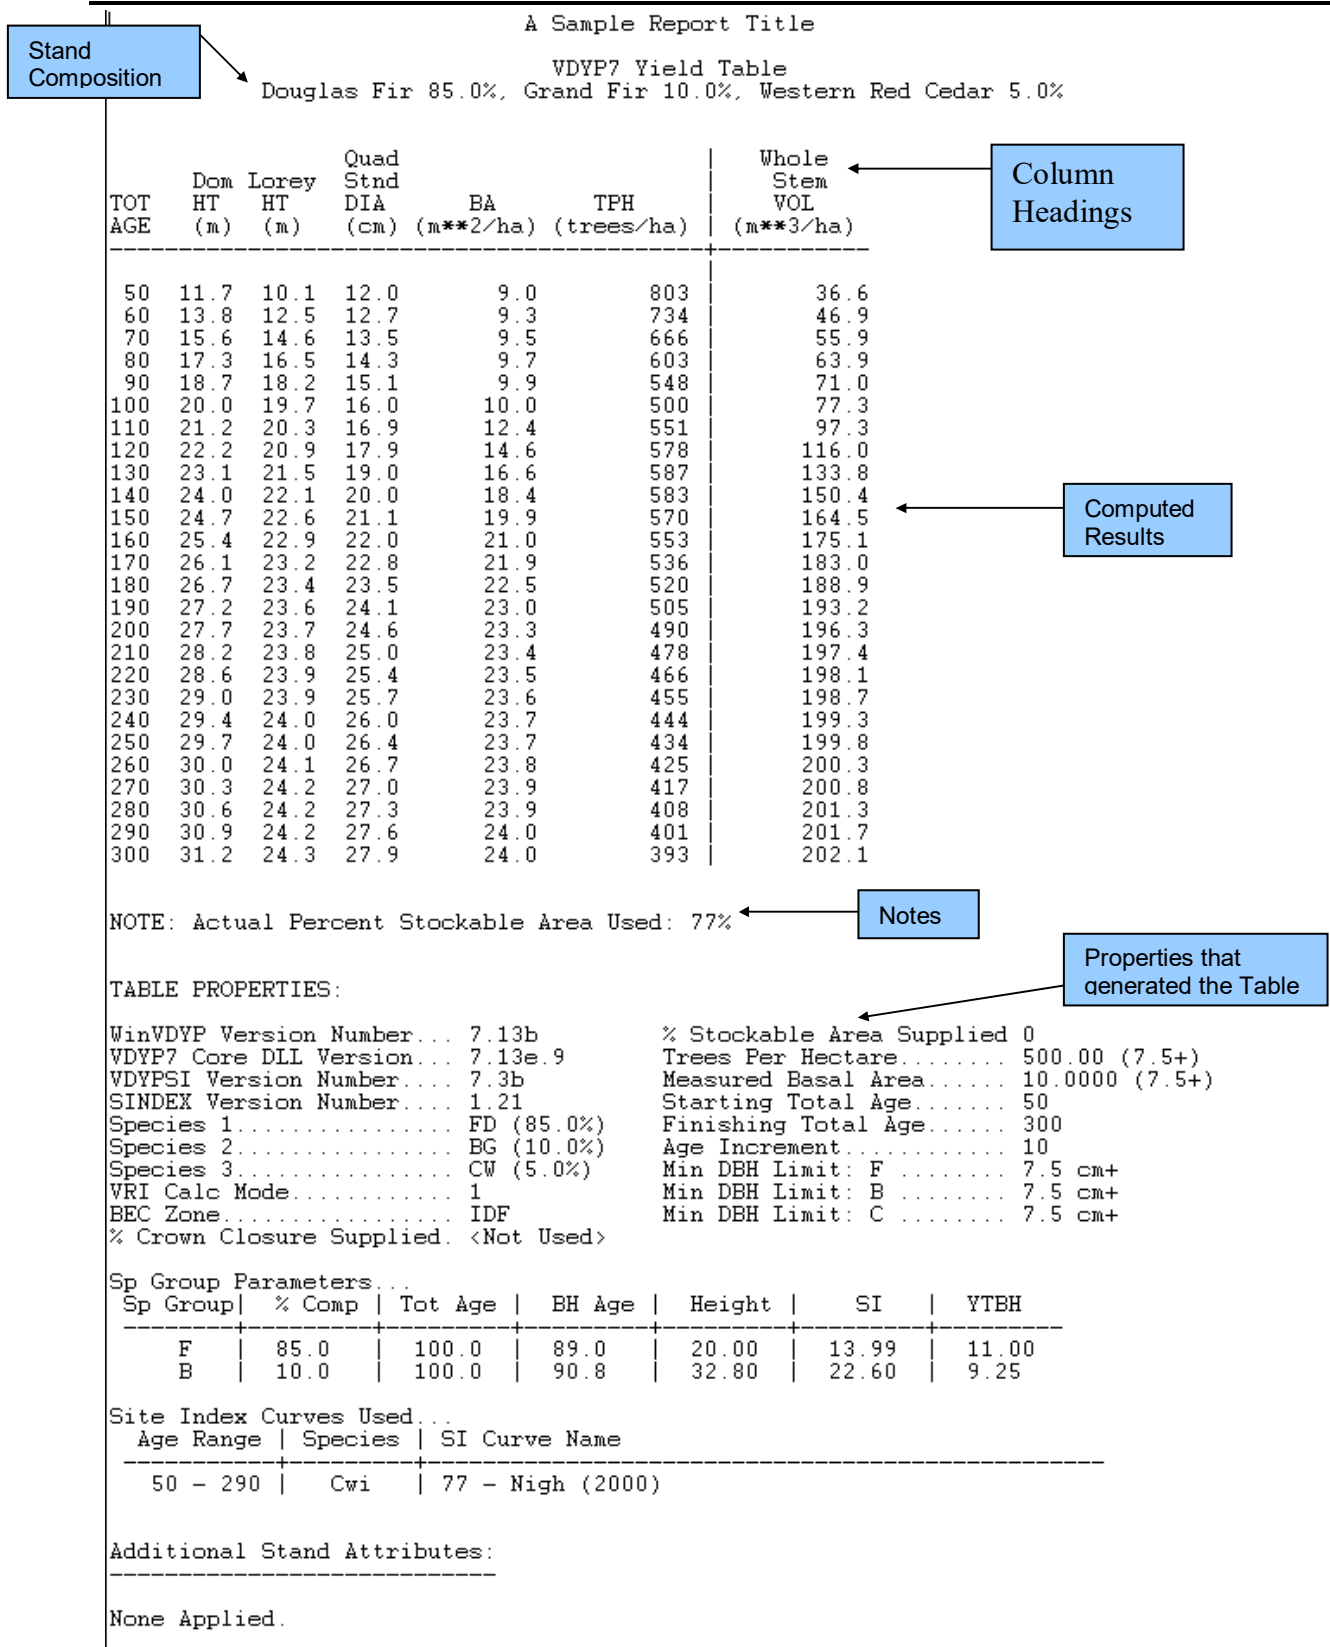

Figure 3-15: Report Contents
Every table is formatted the same with minor variations no matter which choices you make for the properties that generated it. Figure 3-15 shows a typical table and points out each of the important parts to take note of.
- **Computed Results:** the predicted height, diameter, volume and MAI calculations for the utilization levels and age range you selected in the properties for this table. These computed values are displayed and formatted as you see them in Figure 3-15 by default. If you wish to change the defaults, modify the *format patterns* in the VDYP.INI file. For example, a format of ##0.00 produces a field width of six characters with two decimals of precision.
- In Figure 3-15, this particular note indicates that actual percent stockable area used was 77%.